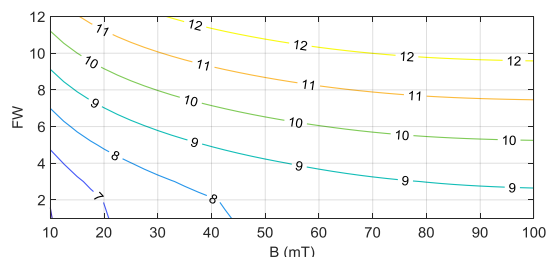

Figure 31: MA780 Resolution
The filter window (FW) determines the effective resolution (defined as the  $\pm 3\sigma$  noise interval). Figure 31 shows the effective resolution for different FWs and the magnetic field (B).